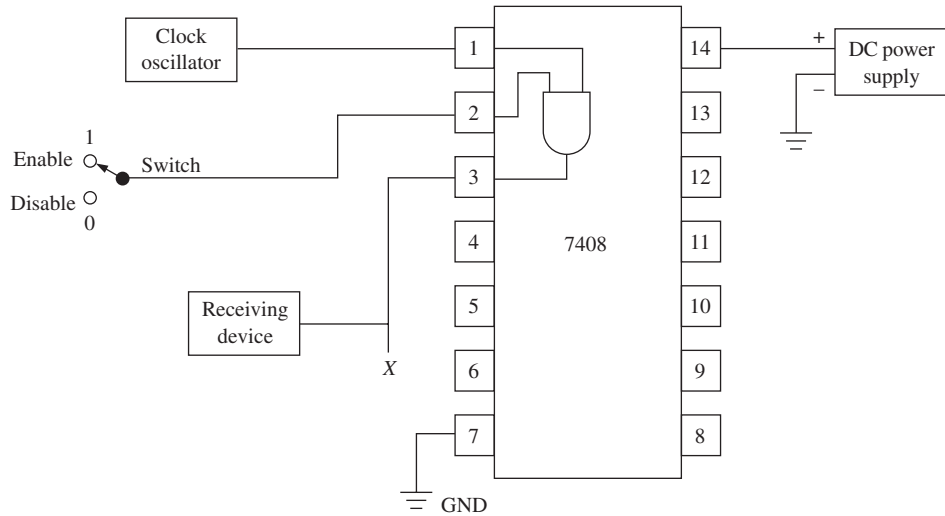

Figure 3–20 Using the 7408 TTL IC in the clock enable circuit of Figure 3–17.
Figure 3–17. The clock oscillator signal passes on to the receiving device when the switch is in the *enable* (1) position, and it stops when in the *disable* (0) position.